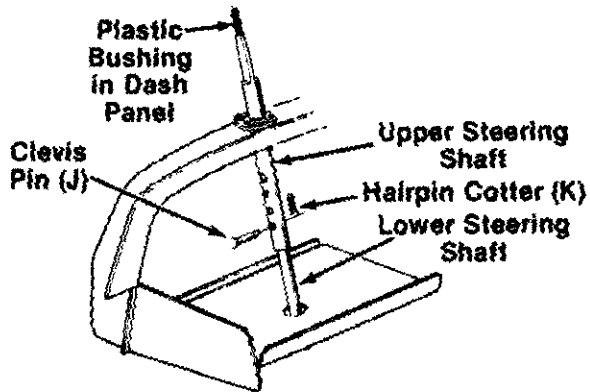

FIGURE 10.
1. For shipping purposes, the upper steering shaft is pushed all the way down over the lower steering shaft. Pull the upper steering shaft up. The four holes in the shaft provide four steering wheel heights. Select desired hole and secure with clevis pin (J) and hairpin cotter (K). See figure 10.